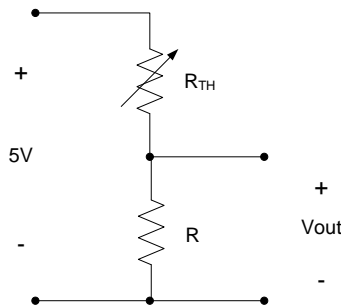

Figure 2. Temperature measurement circuit schematic.
Thermistors are classified as NTC (Negative Temperature Coefficient) or PTC (Positive Temperature Coefficient) depending on whether their resistance decreases or increases with temperature. Thermistor specifications also include their nominal resistance at some temperature. The thermocouple with the temperature-resistance curve shown in Figure 2 is specified as an “NTC 10K Ω @ 25°C” thermistor. Additional information about thermistors can be found in the backup information provided as a companion document on to this lab.
Our design criteria are as follows: Design a circuit like that shown in Fig. 2, containing a thermistor as one of the resistances, which satisfies the following specifications:
In the circuit of Fig. 2, the resistance R_{TH} is the variable resistance of the thermistor. (The arrow through the resistor symbol typically means that the resistance is not necessarily constant.) The voltage v_{out} is the voltage that we will use to indicate temperature. The 5V input voltage is applied across the two resistors as shown. The design problem is to choose a value for R so that v_{out} increases by a minimum of 0.5V over a temperature range of 25°C to 37°C. To do this,
1. Analyze the circuit of Fig. 2 to determine v_{out} as a function of R_{TH} and R .